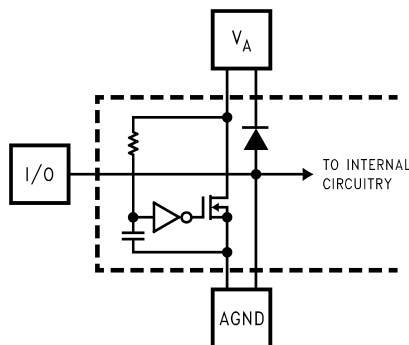

Figure 1.
- (1) The Electrical characteristics tables list guaranteed specifications under the listed Recommended Conditions except as otherwise modified or specified by the Electrical Characteristics Conditions and/or Notes. Typical specifications are estimations for room temperature only and are not guaranteed.
- (2) The analog inputs are protected as shown below. Input voltage magnitudes up to  $V_A + 300$  mV or to 300 mV below GND will not damage this device. However, errors in the A/D conversion can occur if the input goes above  $DR V_D$  or below GND by more than 100 mV. For example, if  $V_A$  is  $2.7V_{DC}$  the full-scale input voltage must be  $\leq 2.6V_{DC}$  to ensure accurate conversions, see Figure 1.
- (3) To guarantee accuracy, it is required that  $V_A$  and  $DR V_D$  be well bypassed. Each supply pin must be decoupled with separate bypass capacitors.
- (4) Typical figures represent most likely parametric norms at  $T_J = 25^\circ C$ . Test limits are guaranteed to National's AOQL (Average Outgoing Quality Level).